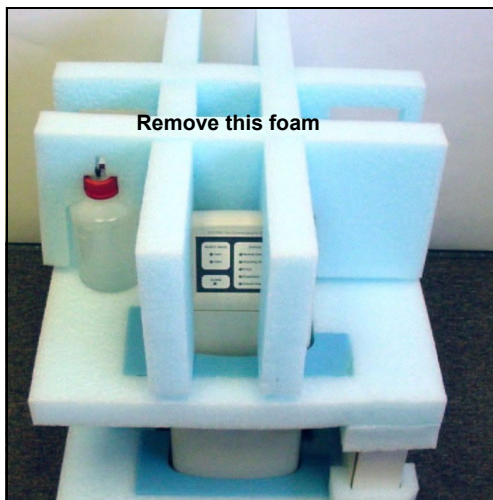

Figure 1. ICS-1000 After Removing Shipping Box and First Layer of Foam
1. After removing the ICS-1000 from the shipping box and removing the top layer of foam, remove the next layer of foam (see Figure 1).